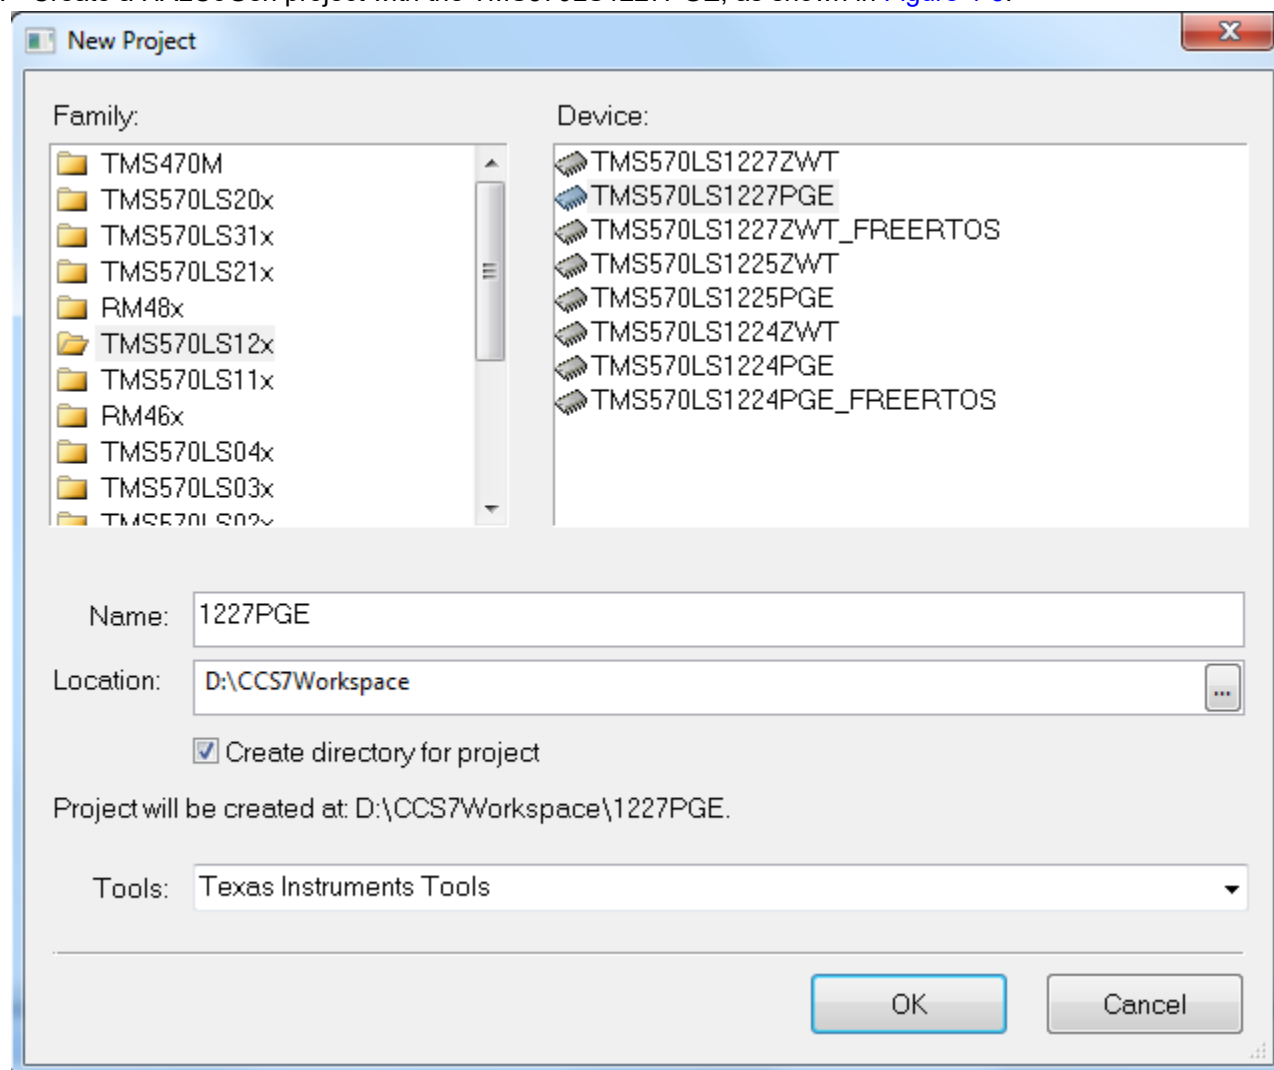

Figure 4-3. New Project
4. Create a HALCoGen project with the TMS570LS1227PGE, as shown in Figure 4-3.